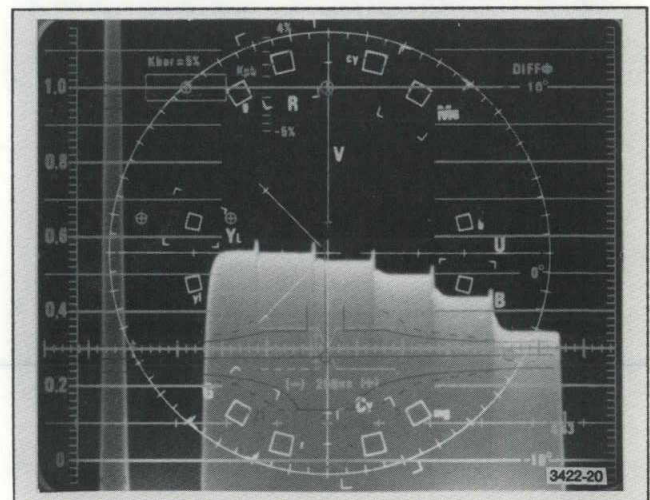

Fig. 3-21. DG Display with Modulated Stairstep Signal.
5. Shift the waveform by turning Vertical POSITION until the top of the modulated stairstep comes to the crt center (Fig. 3-21).